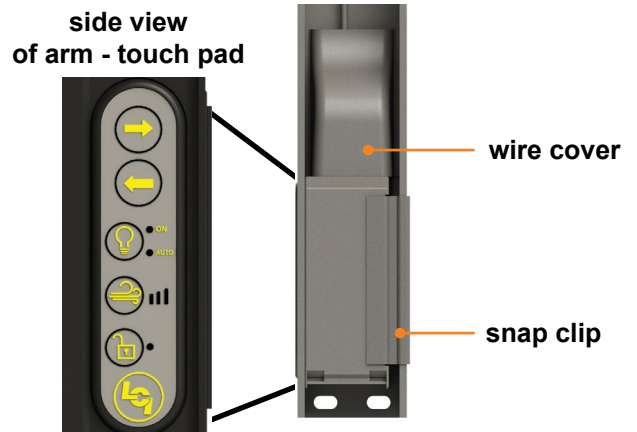

Fig.9
8. Remove the Smart Arm Touch Pad from the wall mount by removing the snap clip on the right side of the touch pad (**Fig.9**). This will allow the touch pad to be removed from the arm (**Fig.9**).
14. Reinstall the Smart Arm Touch Pad and snap clip (Fig.9).